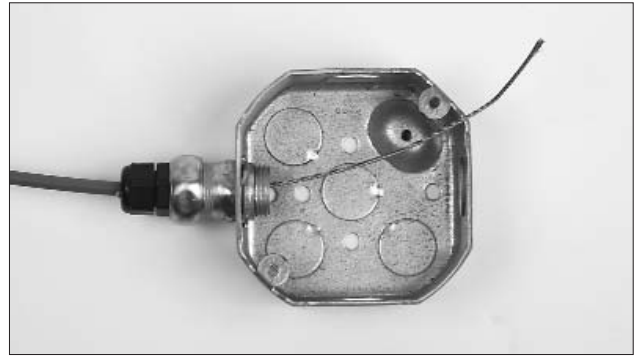

FIGURE 64
- The flexible conduit and wire rope should be connected to the electrical box as described in "Connecting the Flexible Conduit to the ANSUL AUTOMAN Release, Electrical Box, or Mechanical Gas Valve." See Figure 64.